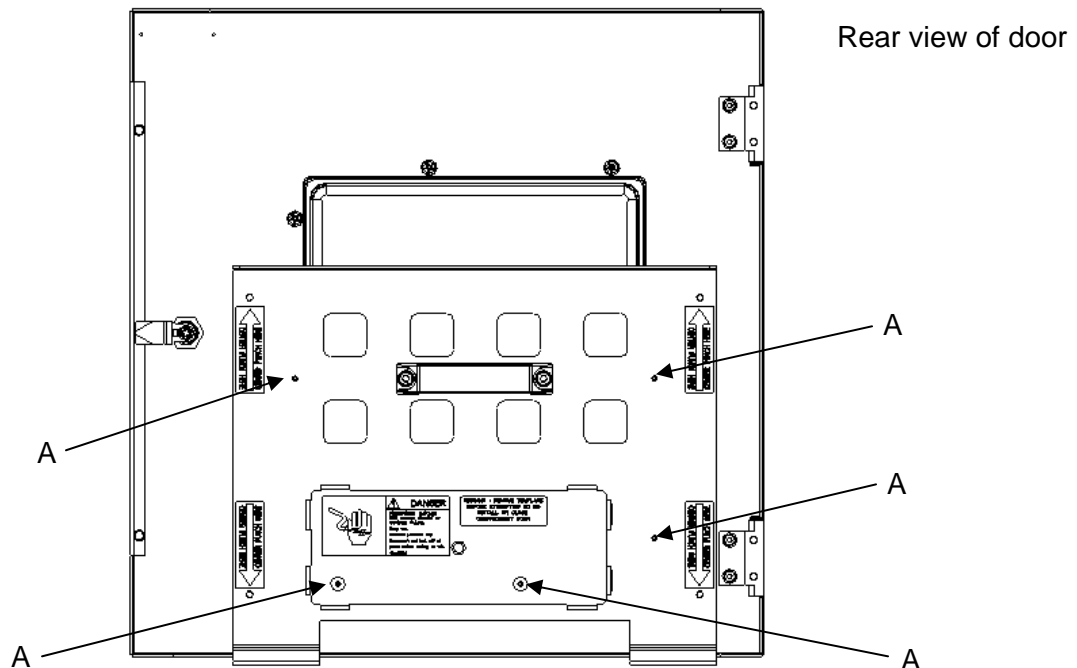

Fig. 2.1 Template on Breaker Door
1. Align template to (5) plastic studs (Items A) of the Breaker Trim Ring on rear side of Breaker Door. See Fig 2.1